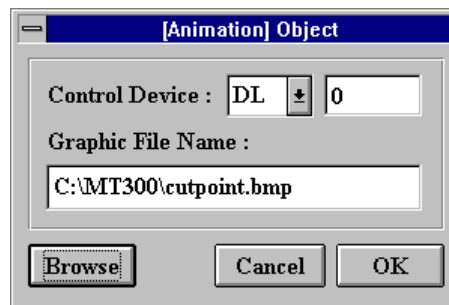

Fig. 3-13: Animation Object Dialog
- 4) Release the mouse button, the **Animation Object Dialog** as shown in Fig. 3-13 is popped up.